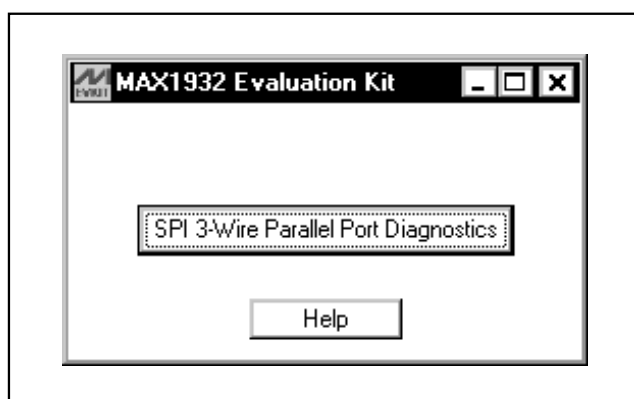

Figure 1. MAX1932 Evaluation Software's Main Window to Access the SPI 3-Wire Parallel Port Diagnostic Utility
- 7) Click on SPI 3-Wire Parallel Port Diagnostic (Figure 1).